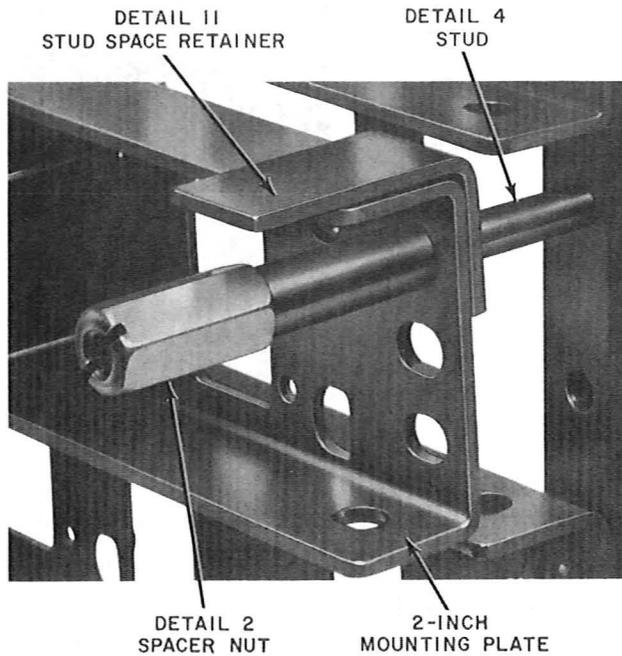

Fig. 12—Detail 4 Studs in Place With Detail 11 Stud Space Retainers
- (a) Remove the upper mounting plate screws and loosen the lower screws several turns. Insert the short thread end of the Detail 4 studs through the upper mounting holes at both ends and screw into frame as shown in Fig. 12.
- (e) Insert the Detail 11 stud spacer retainers behind the mounting plate into the grooves of the Detail 4 studs as shown in Fig. 12.